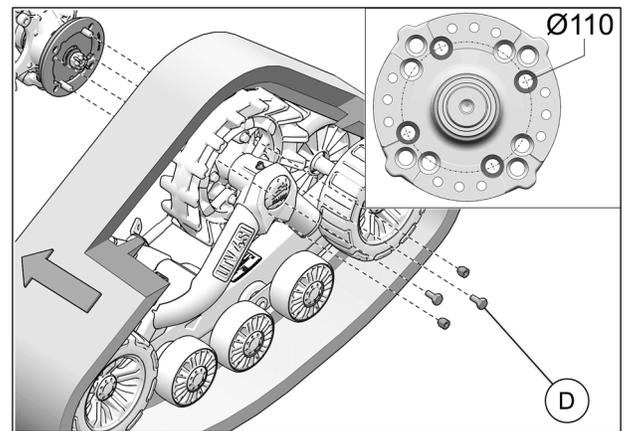

Fig. 23
10. Secure undercarriage to rear hub using the vehicle's wheel nuts and the M12 wheel bolts (**D**) provided in the installation kit. Use bolt circle $\varnothing 110$ mm. See Fig. 23